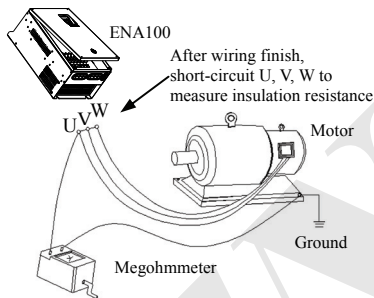

Fig.1-1 Schematic diagram of motor insulation inspection
(11) Motor should do insulation check before first usage or reusage after lay aside for long time. Checking method show as Fig.1-1 below with 500V voltage type megohm meter , insulation resistance should not smaller than 5 M Ω , otherwise inverter maybe damaged.